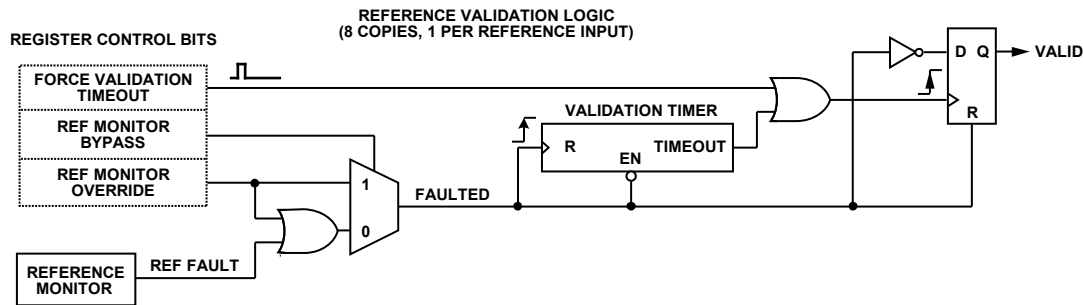

Figure 36. Reference Validation Override
Register 0x0A0E to Register 0x0A10 provide the user with the ability to override the reference validation logic enabling a certain level of troubleshooting capability. Each of the eight input references has a dedicated block of validation logic as shown in Figure 36. The state of the valid signal at the output is what defines a particular reference as valid (1) or not (0), which includes the validation period (if activated) as prescribed by the validation timer. The override controls are the three control bits on the left side of the diagram.